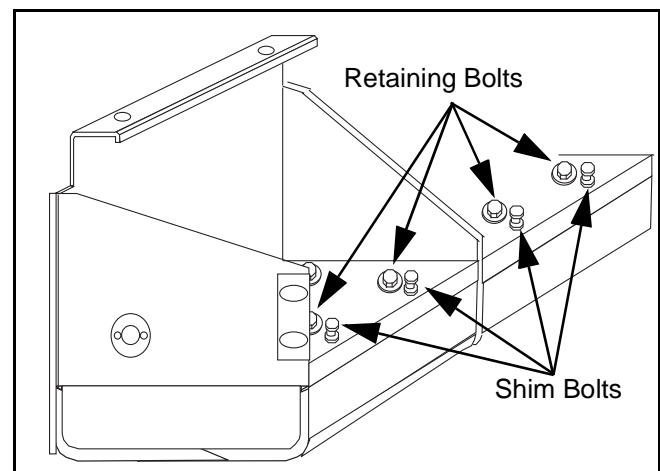

Figure 19 Screed Bottom Flatness
- 2) Check the screed bottom along the length of the straight edge for flatness. If the screed bottom is not flat, loosen the retaining bolt adjacent to the shim bolt and tighten the shim bolt as needed to flatten the trailing edge. Retighten the retaining bolt. (Figure 19)